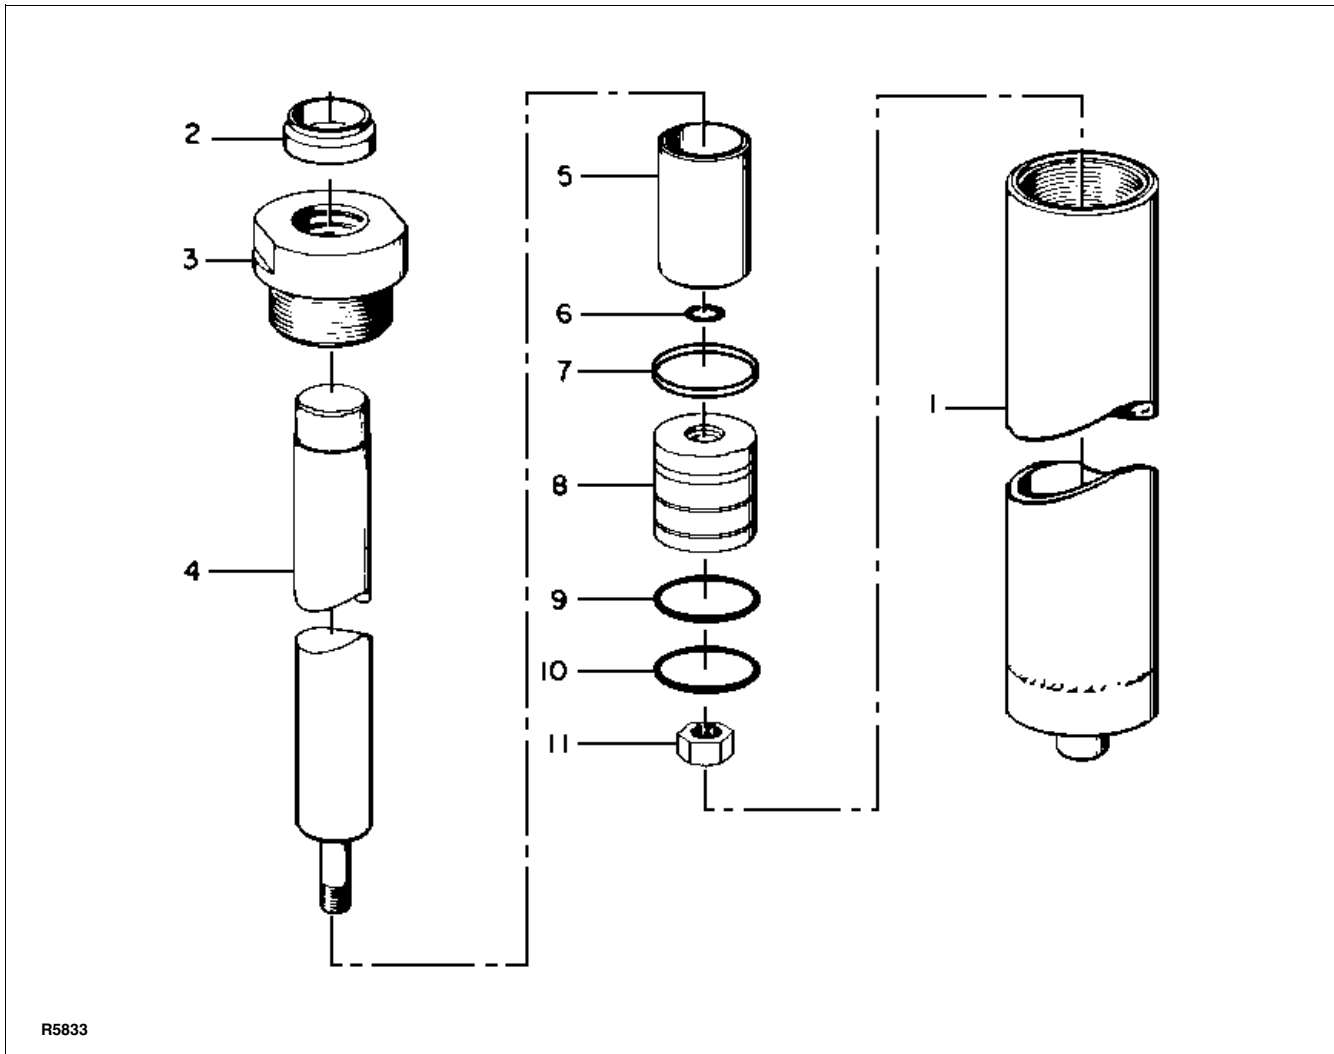

Figure 6-6 Lift Cylinder (Non-Tel) (Model 1018)
1. Secure the lift cylinder in the vise and remove the packing nut (3, Figure 6-6) and dust seal (2).
2. Pull shaft (4) out of barrel (1).